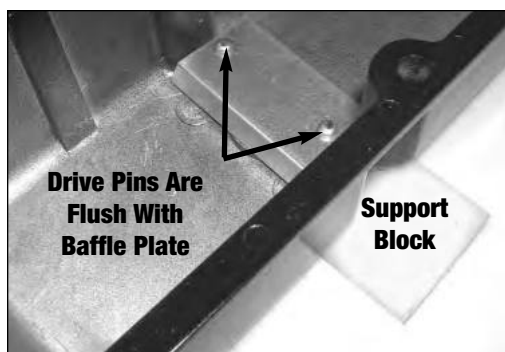

Fig 1 - Baffle Plate Installation
- For applications using breathers/PCV, attach the breather baffles using the supplied drive pins. Using a punch and hammer, tap pins in until fully seated (**See Fig. 1**). On valve covers without breather holes, the breather holes must be drilled/machined before attaching the baffles.
CAUTION!: WHEN DRIVING THE PINS INTO THE VALVE COVER, YOU MUST SUPPORT THE BACK SIDE OF THE VALVE COVER WITH A BLOCK OF WOOD, OR OTHER NON-MARRING SURFACE. FAILURE TO DO SO COULD RESULT IN DAMAGE TO THE COVER, SUCH AS CRACKS, DENTS, ETC. (**See Fig. 1**).